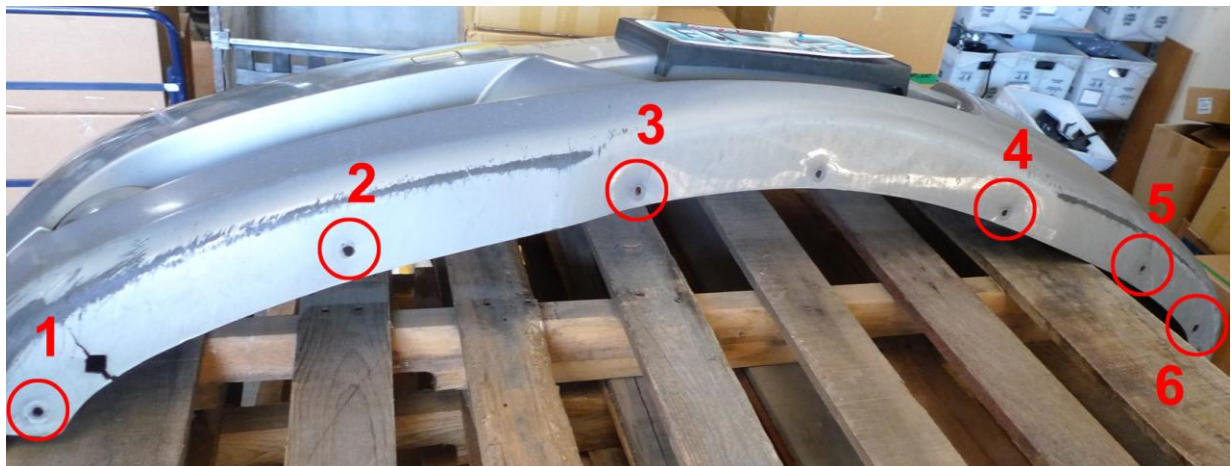

Figure 1
Step 4: After you have removed the two screws from *Step 3*, then you must carefully pull back the Mud-guard (shown as *Figure 1* below; between fender and bumper) to reveal the *two torx screws* attached to the Bumper (shown as *Figure 2* below). Locate these screws and unscrew them.